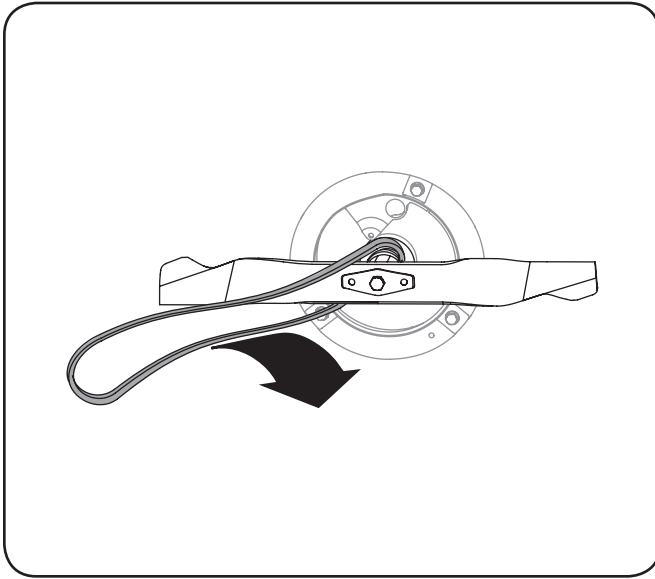

Figure 7-3
4. Lift mower to access belt from underside of mower. Slide belt off of engine pulley and around the blade. See Fig. 7-3.